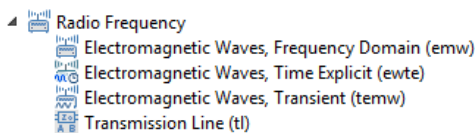

Figure 9: The Radio Frequency (RF) physics interfaces as displayed in the Model Wizard.
Figure 9 shows the Radio Frequency (RF) interfaces as displayed in the Model Wizard for this module.